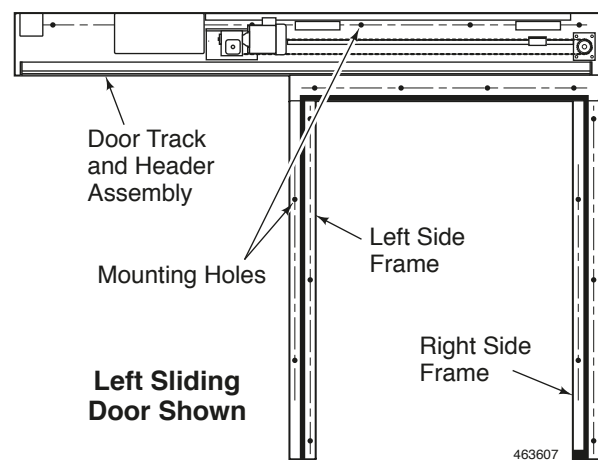

Figure 2
3. At job site, drill 5/16" holes in the frames and headers for mounting to the backing in the wall. Space holes 6" in from the end, then every 36" (18" for track header when nylon threaded rods are used). See Figure 2.
See Figure 2.